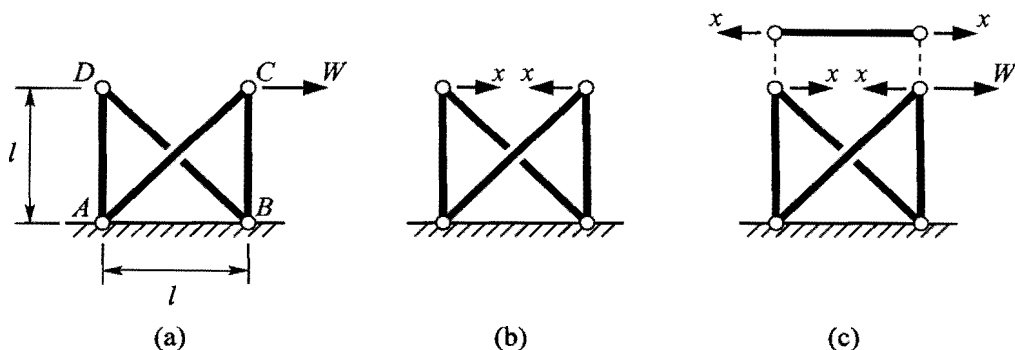

Figure 1
- † 1. (a) Figure 1(a) shows a simple statically determinate structure, where bars AC and BD are not connected to each other. Each of the bars of the structure has axial stiffness AE .
- (b) The same structure is now subjected to the loading shown in Figure 1(b); note that x is a *force*. Calculate the increase in the length of CD due to the applied load.
- (d) An additional bar, also of axial stiffness AE , is to be added to the structure between C and D , as shown in Figure 1(c). Find the value of x such that the extension of the additional bar equals the increase in the distance of CD , found in (c).